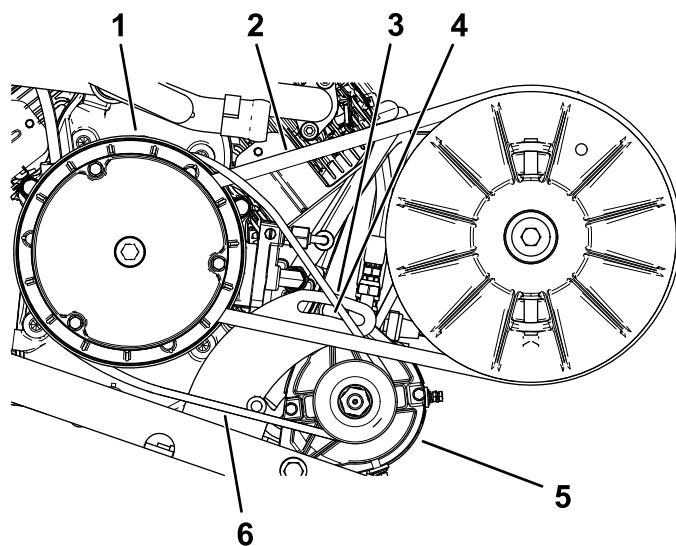

Figure 70
2. Loosen the pivot nut for the starter generator (Figure 70).
4. Apply downward pressure to the pry bar to rotate the starter down in the slot until the belt tension only allows 6 mm (1/4 inch) belt deflection with 44 N·m (10 ft-lb) of force (Figure 70).
5. Tighten the pivot nut by hand, and remove the pry bar (Figure 70).